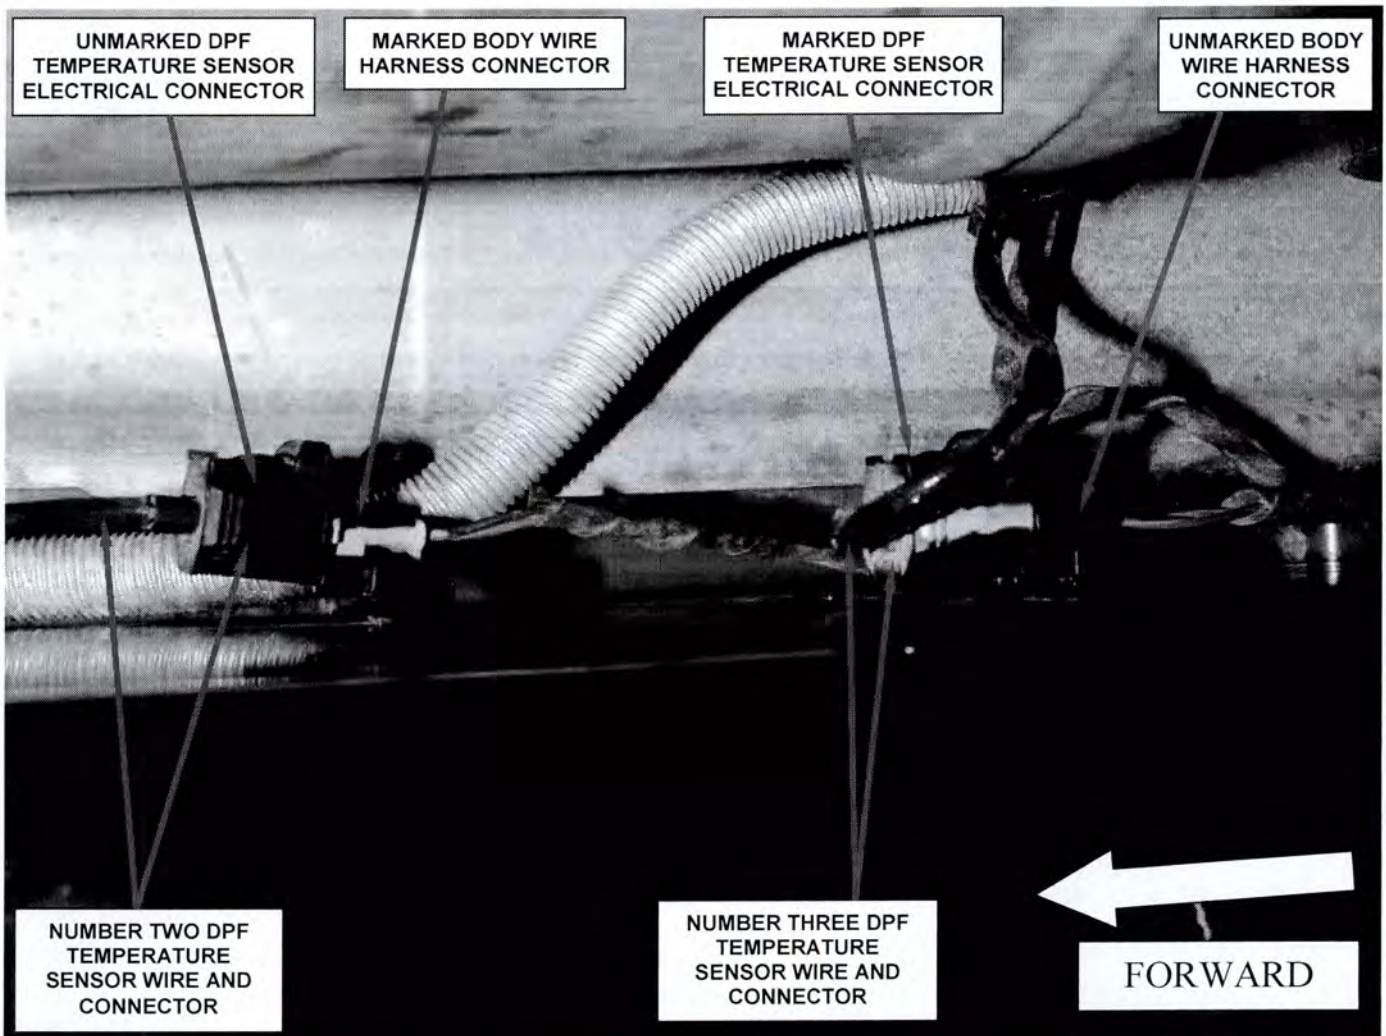

Figure 10 - Correctly Connected DPF Electrical Connectors and Wire Harness
7. Connect the marked body wire harness connector to the unmarked DPF temperature sensor electrical connector (Figure 10).
8. Connect the unmarked body wire harness connector to the marked DPF temperature sensor electrical connector (Figure 10).